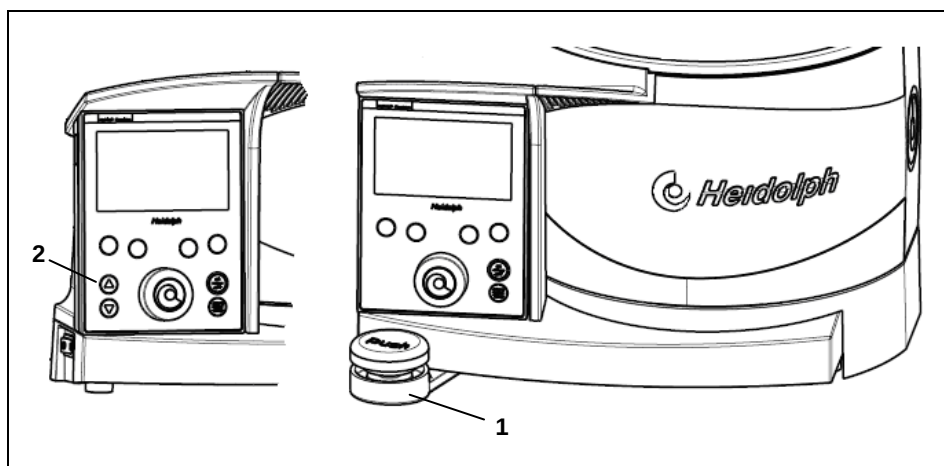

Figure 4-5: Hand/motor lift
- ➔ Press the respective arrow key (up/down) (see Figure 4-5 (2)) and release the pushbutton at the desired position of the drive unit.